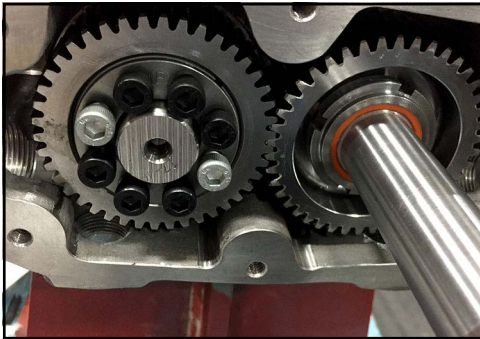

Figure 151 - Locking assembly
3. If the locking assembly does not self-release, tap the screws lightly with a mallet (or use thread jacking holes) to loosen the gear as shown in Figure 151.